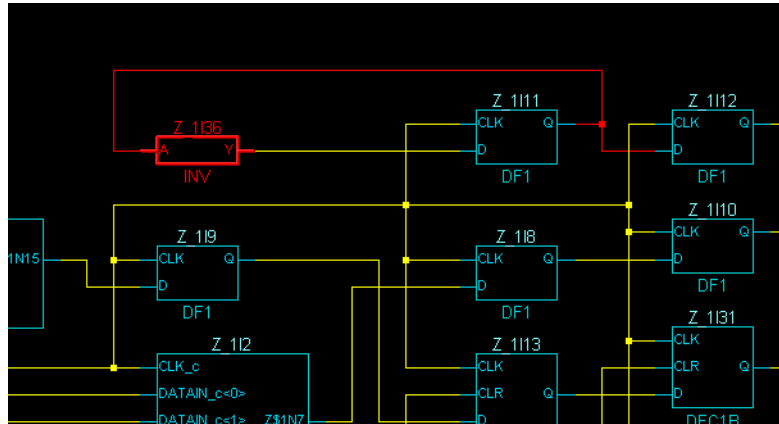

Figure 3-2. Flip Flop Feedback
2. Zoom to locate the flip flops, as shown in Figure 3-2.